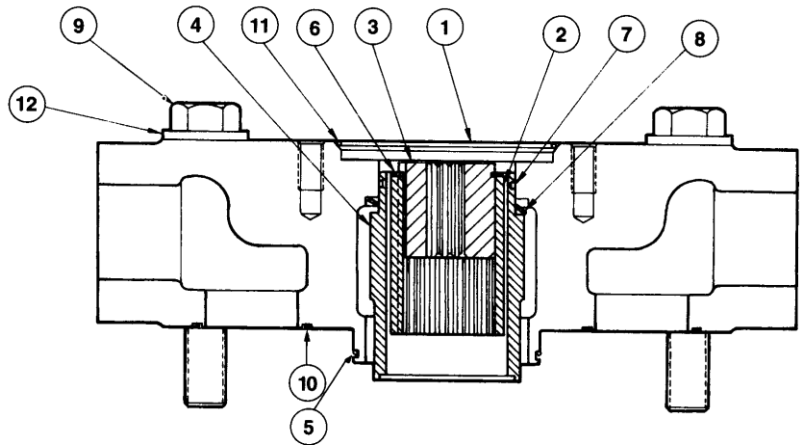

FIGURE 12
PARTS LIST FOR FIGURE 12
See figure 12: Place wave spring, (8) over isolation tube (4). Lube O-ring (7) and assemble to isolation tube. Place isolation tube against pressure plate.